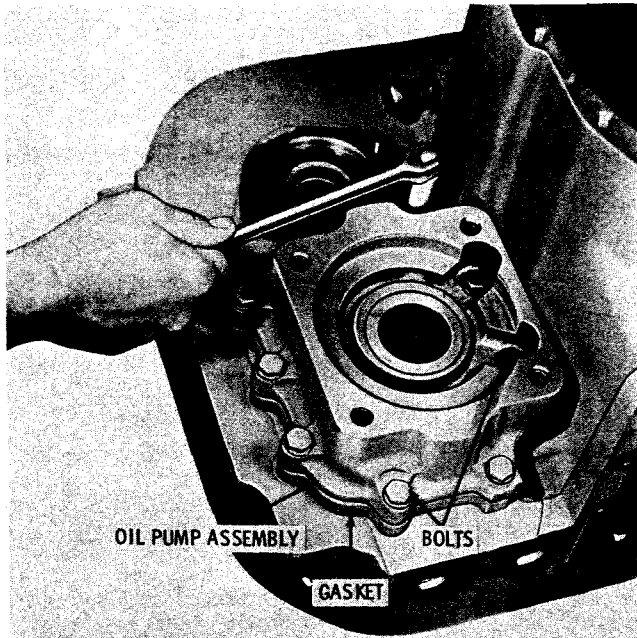

Fig. 5-59. Removing oil pump assembly
a. Remove the bolts and lockwashers that attach the oil pump to the transmission housing (fig. 5-59).